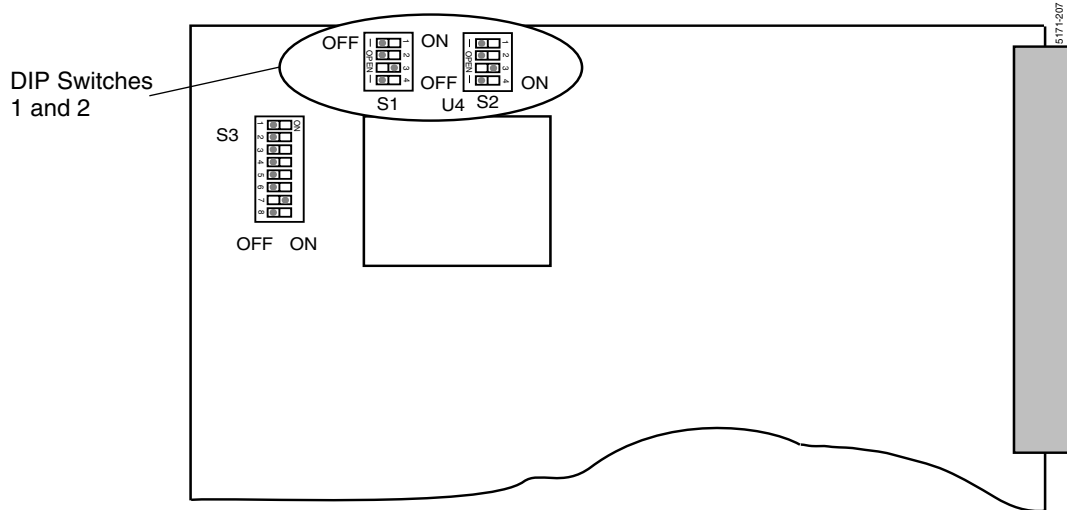

Figure 2-71. Diplexer Input Module Audio Attenuator Switch S1 Location
1. Remove the Diplexer Input module from the frame, and place on a flat, level, static-free surface with the module orientation as shown in Figure 2-71.